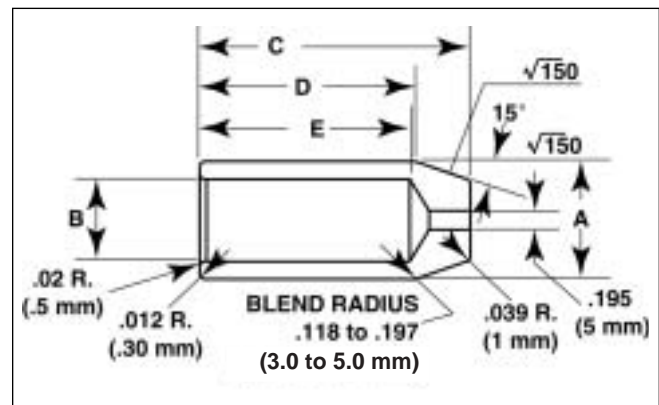

Figure 7 (not to scale)
10. Fit the protective cone shown in Fig. 7 on page 12 over the end of the shaft. Apply a light coating of lithium grease to the outer surface of the cone. Slide the protective cone and shaft through the shaft seal, positioning the ball bearing in place.
11. Assemble the retaining ring (41) into the pump body.
12. Place the housing on a fixture with the shaft end facing down. Insert the spring (19) and spring seat (20) into the pump body.
13. Lightly coat the wear plate (16) with grease, and mate to the hanger (9). Then fit into the pump body.
14. Press the hanger (9) until approximately horizontal, using a press if necessary. Then install the trunnions.